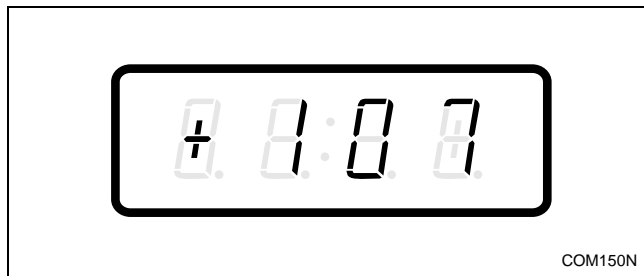

Figure 187
3. Press the DELICATES (+) or the COLD (-) keypad to scroll through the programmable options until “+107” appears in the VFD. Refer to *Figure 187*.